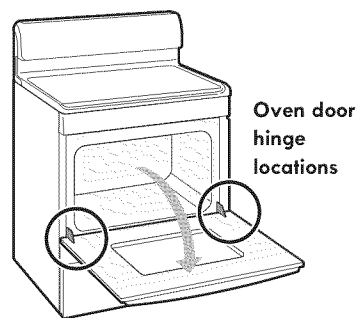

Figure 58: Oven hinge locations
1. Open oven door completely (horizontal with floor - Figure 58).
3. Fully open the oven door (horizontal with floor - Figure 58).